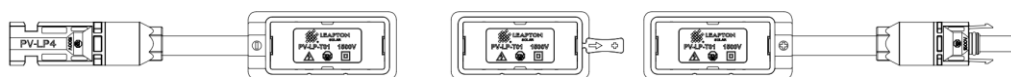

Figure 14: Half cells/Transparent backsheet solar module junction box
- H) Define the length of the junction box cables as (different installation methods correspond to different cable lengths for different solar module types), or as required by customers on the length of the cable. As shown in Figure 14 below, please consider the length of the lead wire before designing the cable. It is not recommended to plug different types of connectors.